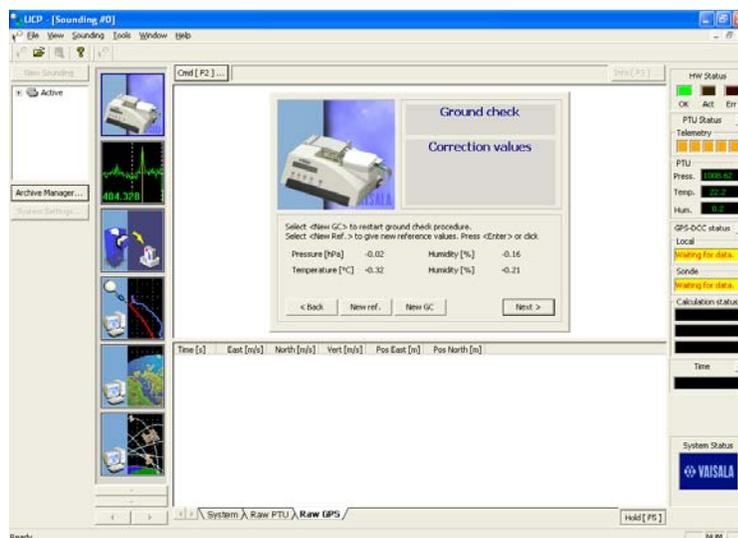

Figure 11
35. If everything looks OK, click on “Next” (see Figure 11).